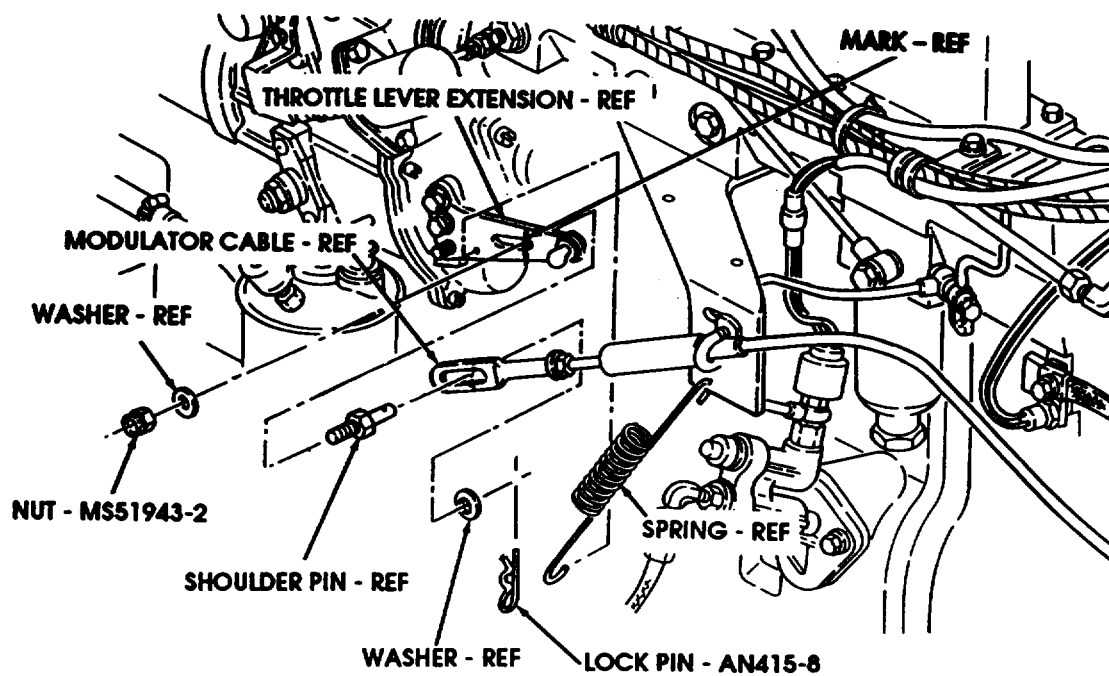

FIGURE 8
- (4) Install shoulder pin on throttle lever extension (12363633-1) with washer and MS51943-2 nut as shown in figure 8.
- (5) Install modulator cable on throttle lever extension (12363633-1) and shoulder pin with washer and AN415-8 lock pin as shown in figure 8.
- (6) Install spring on throttle lever extension (12363633-1) as shown in figure 8.